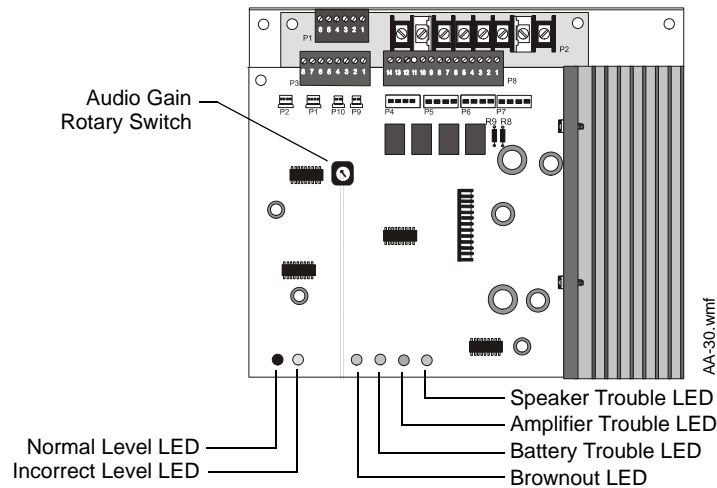
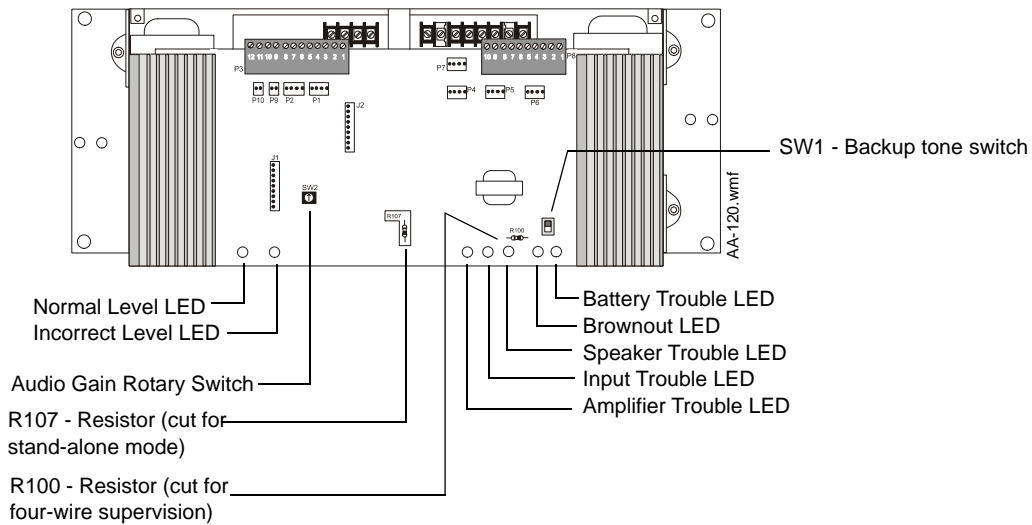

Figure 3.6 AA-30 LED and Switch Locations
Figure 3.10 AA-100/AA-120 LED and Switch Locations
- Cut resistor R100 on the AA-120 or AA-120 (Figure 3.10).
- To use high-level audio (25 Vrms output) with four-wire supervision, cut resistor R100 as shown in Figure 3.10. **Note:** In the AA-120, this option is only required when output wiring leaves the cabinet.
- If the amplifier is being used in stand-alone mode (no connection to DVC-AO) where the backup high/low or slow whoop tone generator is being used, resistor R107 (see Figure 3.10) must be cut to prevent the amplifier from generating a trouble condition. The amplifier will indicate trouble within 90 seconds.
1. Locate SW1 in the lower right-hand corner of the AA-100 or AA-120 (Figure 3.10).
1. Locate the Audio Gain Rotary Switch on AA-30 (Figure 3.6) or AA-100 and AA-120 (Figure 3.10).
- To use high-level audio (25 Vrms output) with four-wire supervision, cut resistor R100 on the AA-120 or AA-120 (Figure 3.10).